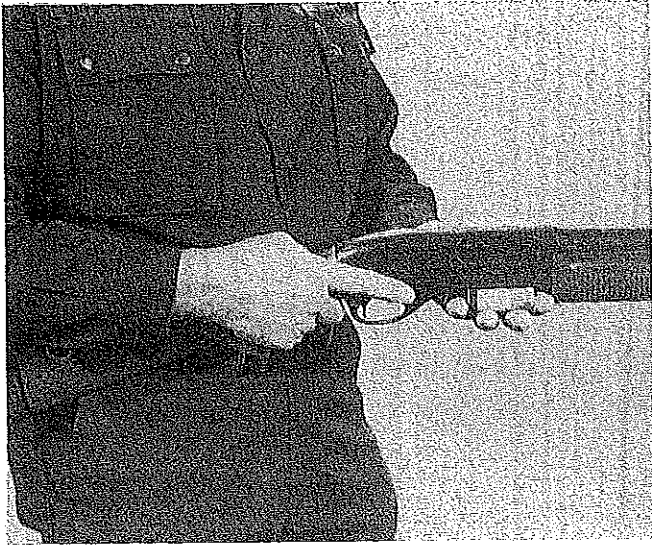

FIGURE 62
- (1) It can be accomplished by finding the front of the trigger guard with the off-hand thumb and then moving forward. This will guide the shooter to the loading port and assist in quick, smooth reloading.
- c. Should the gun be empty (slide back), (Figure 62) the first round should be loaded through the ejection port to charge the weapon. (Figure 63) Run the slide forward. (Figure 64) This charges the gun and you are ready to shoot. The safety should be on until you are ready to fire.